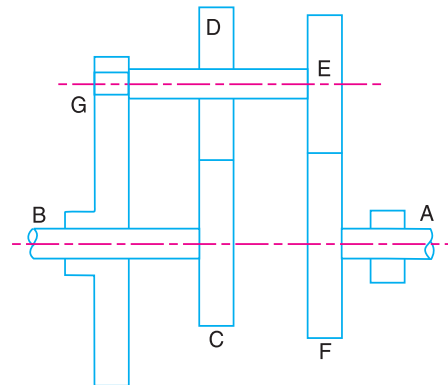

Fig. 13.34
5. In an epicyclic gear train, as shown in Fig. 13.34, the wheel  $C$  is keyed to the shaft  $B$  and wheel  $F$  is keyed to shaft  $A$ . The wheels  $D$  and  $E$  rotate together on a pin fixed to the arm  $G$ . The number of teeth on wheels  $C, D, E$  and  $F$  are 35, 65, 32 and 68 respectively. If the shaft  $A$  rotates at 60 r.p.m. and the shaft  $B$  rotates at 28 r.p.m. in the opposite direction, find the speed and direction of rotation of arm  $G$ . [Ans. 90 r.p.m., in the same direction as shaft  $A$ ]